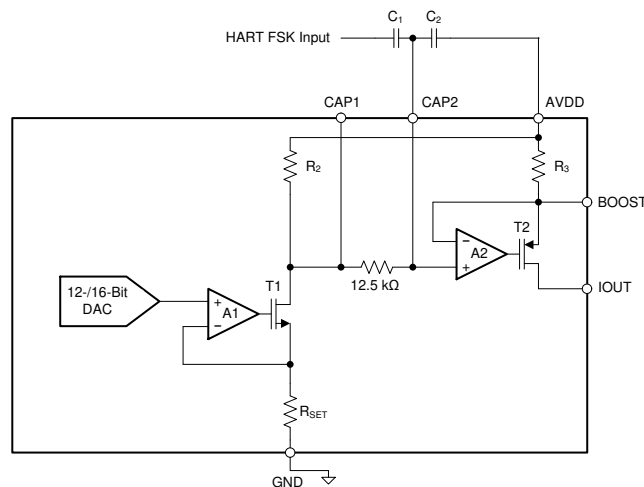

Figure 9-3. Implementing HART on IOUT Using the CAP2 Pin
The first method of implementing HART is to couple the signal through the CAP2 pin, as conceptualized in Figure 9-3. Note that this pin is only available in the 40-pin VQFN package.
In Figure 9-3, R_3 is nominally 40 Ω, and R_2 is dependent on the current output range (set by the RANGE bits) as described below:
1. As is seen in Figure 9-3, CAP2 is directly connected to the input of the final IOUT amplifier. Any noise or unwanted ac signal routed near the CAP1 and/or CAP2 pins could capacitively couple onto internal nodes and affect IOUT. Therefore, with the QFN package, it is important to avoid routing any digital or HART signal trace over the CAP1 and CAP2 traces.